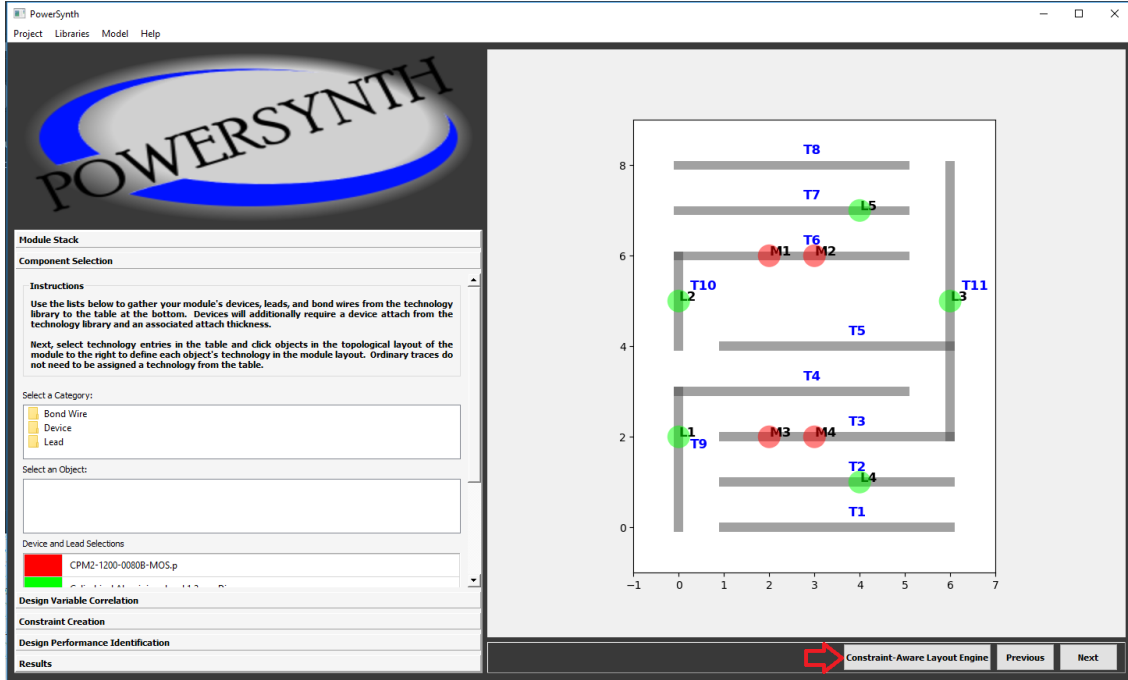
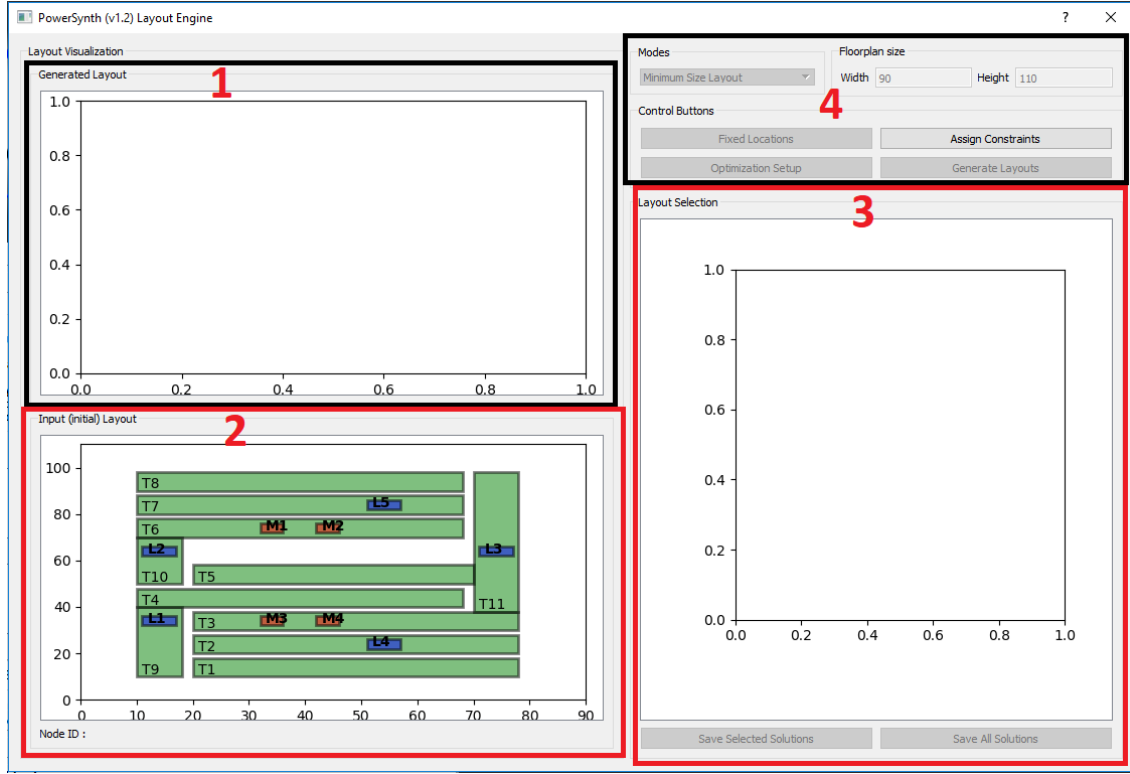

Figure 1: Entering into constraint-aware layout engine
Figure 2: New Layout Engine Window
To use this layout engine, the user must follow the steps up to 2.3.6. Then constraint-aware layout engine button will be enabled. Upon clicking on the button (marked with an arrow in Fig. 1) named **“Constraint-Aware Layout Engine”** the updated layout engine dialog will appear (shown in Fig. 2).
3. **Layout Selection:** This is the solution browser. Here, all solutions will be appeared as dots. Upon click on each dot corresponding layout will be shown in top left part (marked as 1 in the Fig. 2).